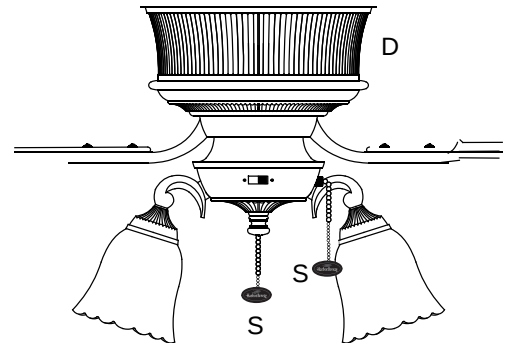

Fig. 10
10. Pull chain extensions (S) supplied in one of the hardware packs or custom pull chain extensions (not included) may be attached to fan and light pull chains. [Fig. 10]